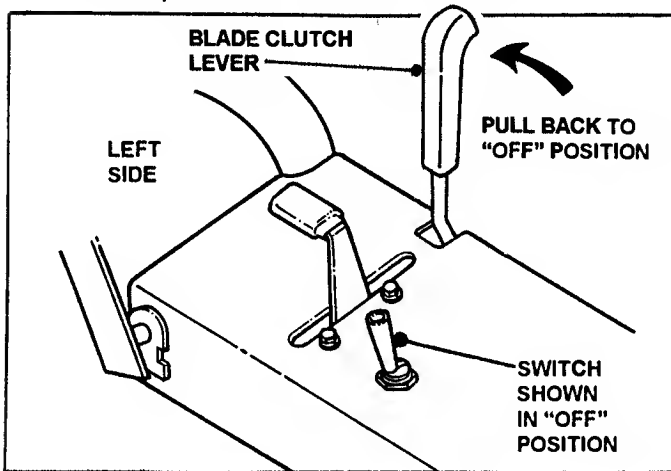

FIGURE 8
- 4b. **PISTOL GRIP** - Pull Blade Clutch Switch backward to the OFF position. See Figure 8.
- 10b. **PISTOL GRIP** - SEE Figure 8.